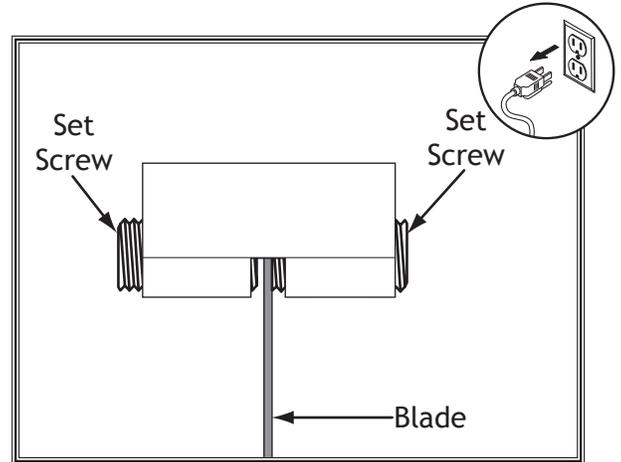

Figure 29. Plain-end blade inserted into blade adapter.
3. Loosen blade adapter set screws to allow saw blade ends to slide into adapters, as illustrated in **Figure 29**.
4. Thread one set screw in until it just makes contact with blade. Then tighten other set screw, as illustrated in **Figure 29**.